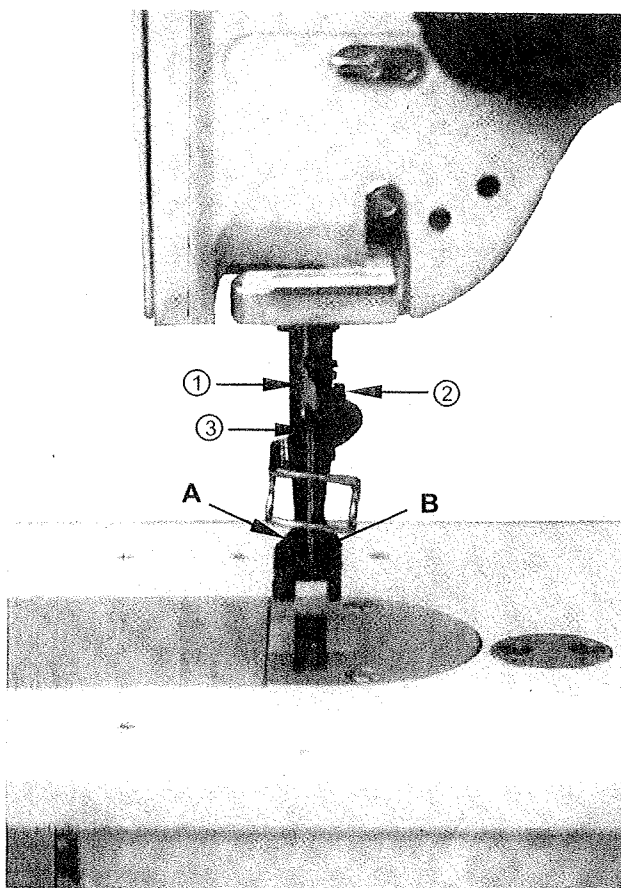

Fig.7
NEEDLE (Fig.7)
2. When altering the lift of the lifting presser foot (A, Fig. 7) unequally against that of the vibrating presser foot (B, Fig. 7) or vice versa, see the instructions "ADJUSTING THE HEIGHT OF THE PRESSER FEET".